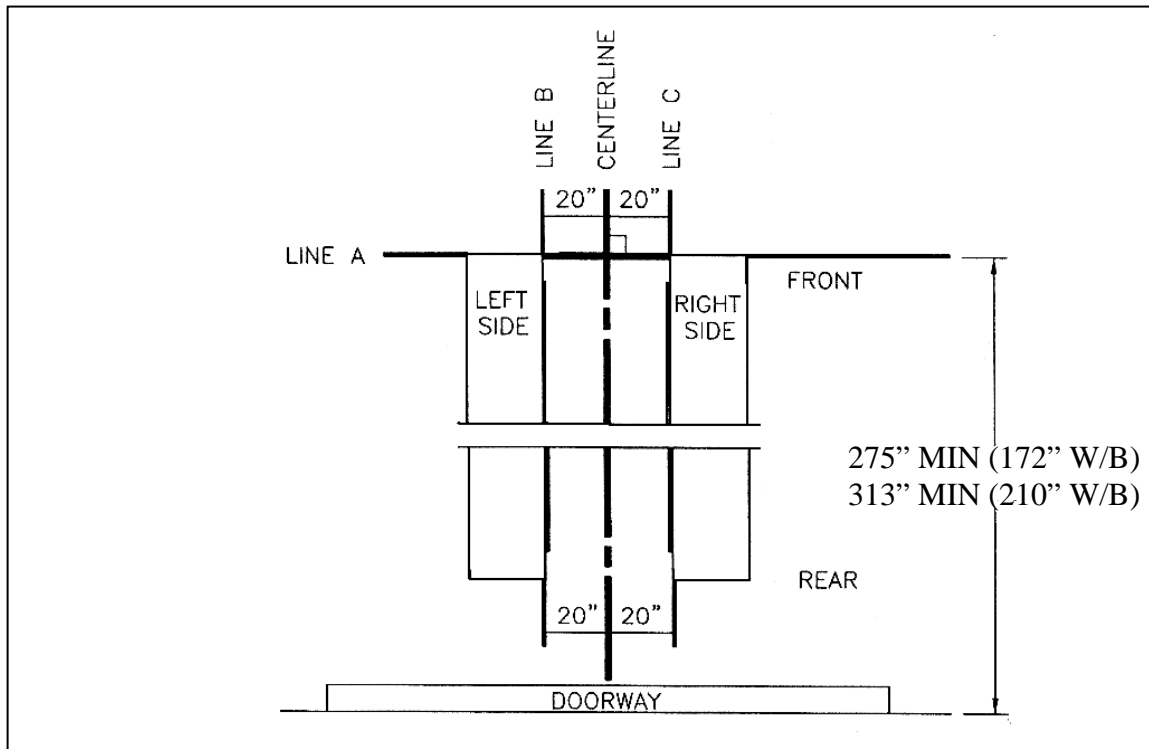

Figure 2. Chalk line layout
- An outline matching the dimensions shown in Figure 2 will need to be marked on the floor. Refer to Figure 2 for outline dimensions. Refer to General Lift Specifications for overall lift dimensions.
- **Refer to Figure 2.** Make a chalk line parallel to the doorway at least 275" (172" W/B) / 313" (210" W/B) in from the doorway. This will be the location for the front face of the front crossmember (and the front edge of the two deck assemblies). Call this line "A".
- Remove the left and right deck assemblies from their packaging and place them on axle stands as follows (see Figure 2):
- At this point the decks should be completely fastened to the crossmembers and the threaded portion of each cable should be routed through the crossmembers, past the lock safety. Before proceeding, check that the layout matches that shown in Figure 2, that the lift is square and that there is a 40” gap between the decks along their entire length.
- Check all layout dimensions on Figure 1 and Figure 2 before continuing with anchor installation.